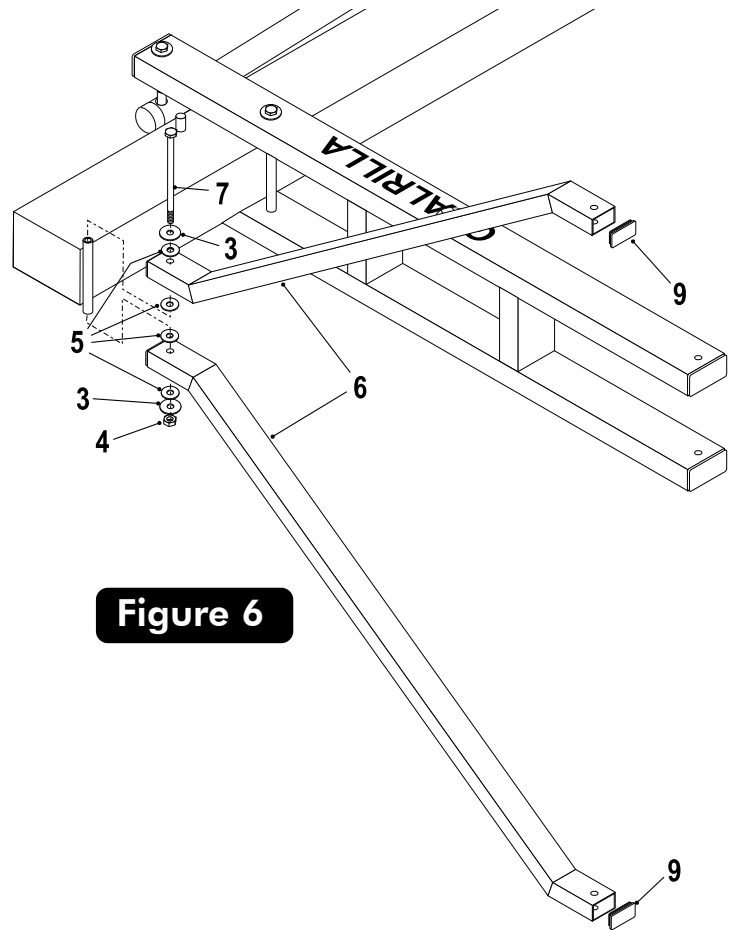

Figure 6
- Attach Upper Arm (#6) to Pole (#2), as shown in Figure 6, using a bolt (#7), two flatwashers (#3), four plastic washers (#5) and hex nut (#4).